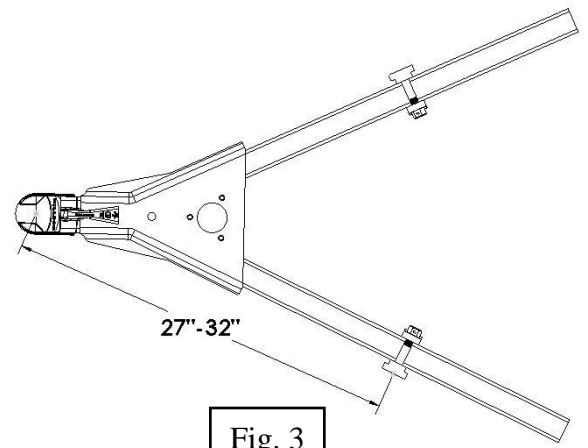
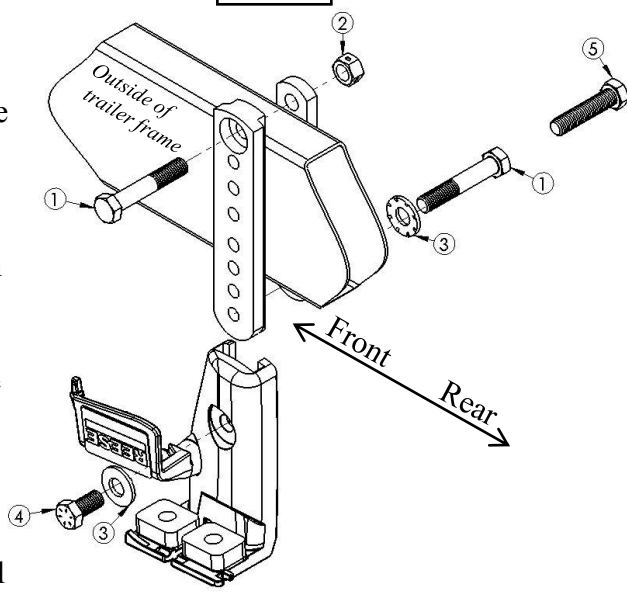

Fig. 3
Fig. 4
1. Use the measuring tape to locate a point 27-32" along the A-Frame from the center of the coupler. Mark this location with a pencil on both sides of the A-Frame (See Fig. 3)
2. Insert a 3-1/2" long 5/8" bolt (1) through the large hole in the **T-Bar** and single hole in the **Clamping Bar**.
3. Secure with a 5/8" lock nut (2) and hand tighten.
4. Slide the **T-Bar** and **Clamping Bar** over the frame where the mark is located from step 1. The **T-Bar** must be located on the outside of the A-Frame with the large hole facing outward (See Fig. 4). Allow 1" of clearance on either side of the **T-Bar**.
5. Insert a second 5/8" bolt *from the inside* through a conical washer and the **Clamping Bar** and thread into the **T-Bar**. Use the highest holes not obstructed by the bottom of the frame (See Fig. 4).